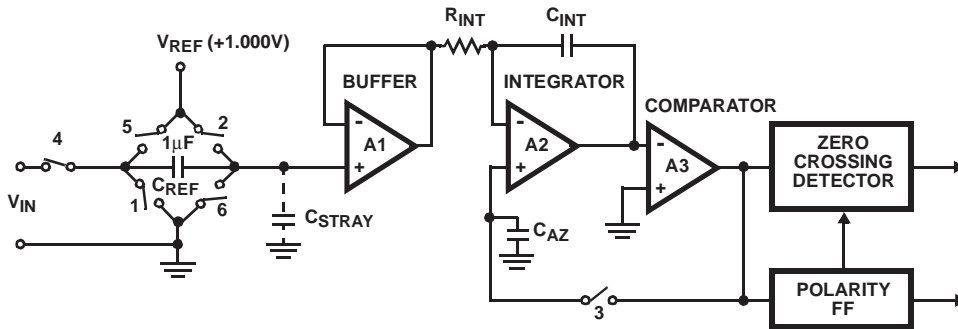

FIGURE 2B. PHASE II INTEGRATE INPUT
**Input Integrate Phase II** (Figure 2B)